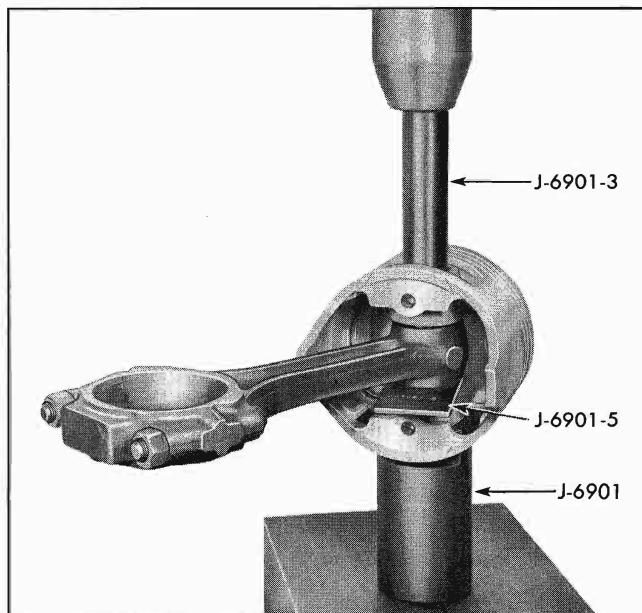

Fig. 6-68 Piston Positioned in Arbor Press for Removal of Pin
2. Using a suitable arbor press, place plunger of tool J-6901 into piston pin bore and position on arbor press (Fig. 6-68).
3. Place tool J-6901-5 between connecting rod and piston boss (Fig. 6-68).
4. Place tool J-6901-3 (Fig. 6-68) in piston pin and press piston pin down until pin bottoms in tool J-6901.
6. Remove plunger and spring from tool J-6901 (Fig. 6-68).
8. Using tool J-6901-3 (Fig. 6-68) press pin out of piston and connecting rod.